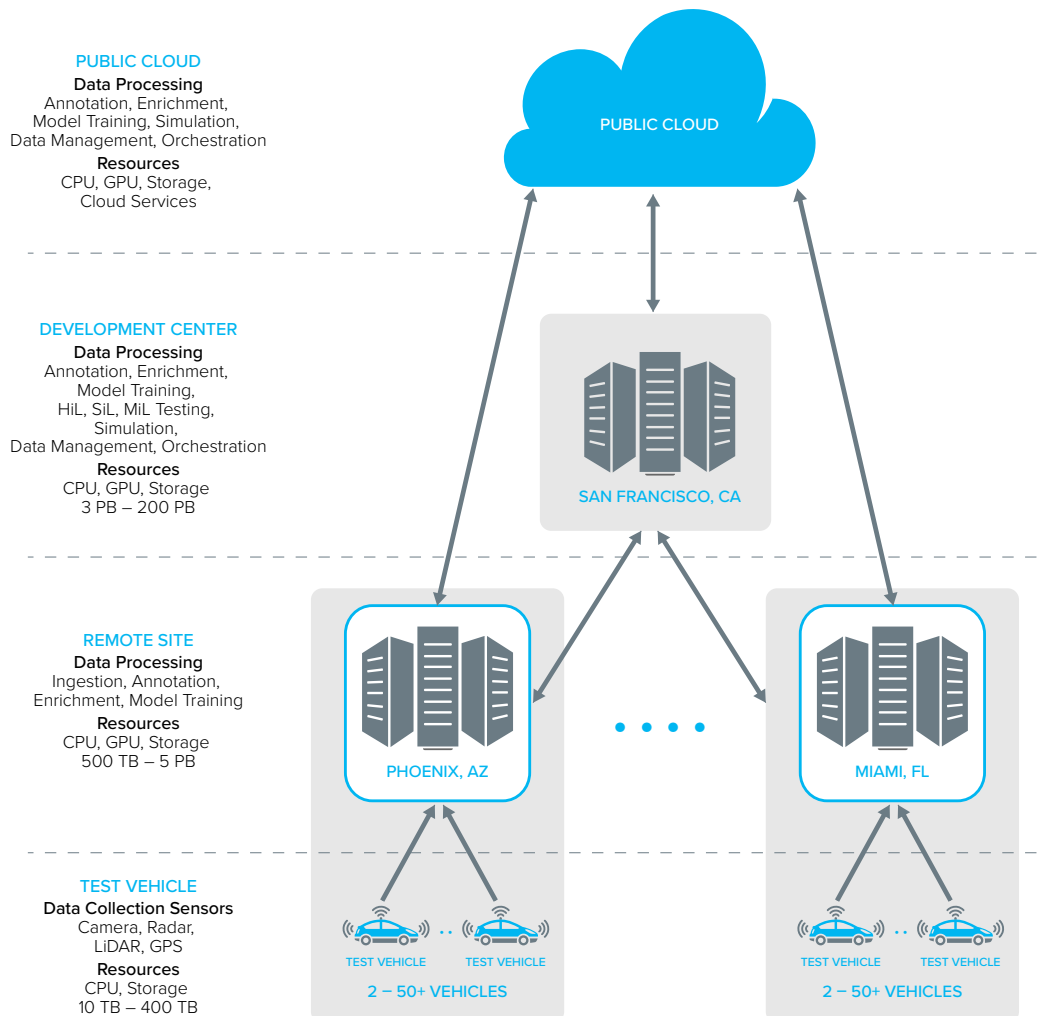

Figure 2 - ADAS/AD Platform Architecture
An advanced ADAS/AD development platform is a distributed machine learning (ML) system capable of processing vast amounts of data. Figure 2 exemplifies the high-level architecture of such a platform. The platform is globally distributed across test vehicles, remote sites, development centers, and public cloud infrastructure. At its core, it implements a globally distributed data lake containing all raw sensor data, simulated data, and metadata. Many of the data pipeline operations listed in the previous chapter are performed at multiple locations, including vehicles, remote sites, development centers, and the public cloud. For quick data search and access, a global data catalog and data management system are required. Placing the data across multiple storage layers guarantees data availability at the required speeds, scale, and cost at each location. Multiple types of distributed and federated machine learning frameworks are frequently used. They impose intense performance demands on the globally distributed data lake. A combination of high-speed parallel file systems, NVMe block and file storage, scalable object store, and large-scale data archival storage must be deployed to meet these demands.
The described platform architecture is modular, scalable, and capable of supporting the needs of companies of any size. The ADAS/AD platform contains four types of locations – Vehicle, Remote Site, Development Center, and Public Cloud (Figure 2). Companies developing and deploying ADAS/AD systems could maintain all or some of these locations. They could deploy very few or hundreds of test vehicles operating at one or multiple locations. All data could be processed at a single location, multiple locations, or pushed for processing at the company's public cloud-hosted infrastructure.